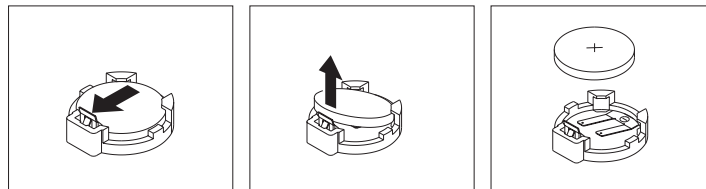

Figure 28. Removing the battery
6. Remove the battery (see Figure 28):